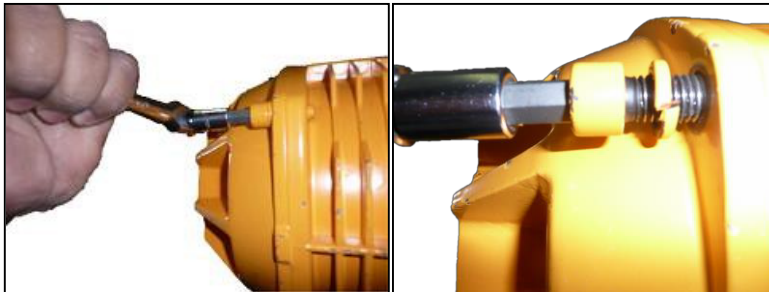

Figure 7.4.1
1. Loosen and remove socket head cap screw and spring washers securing the motor shell (see Figure 7.4.1).